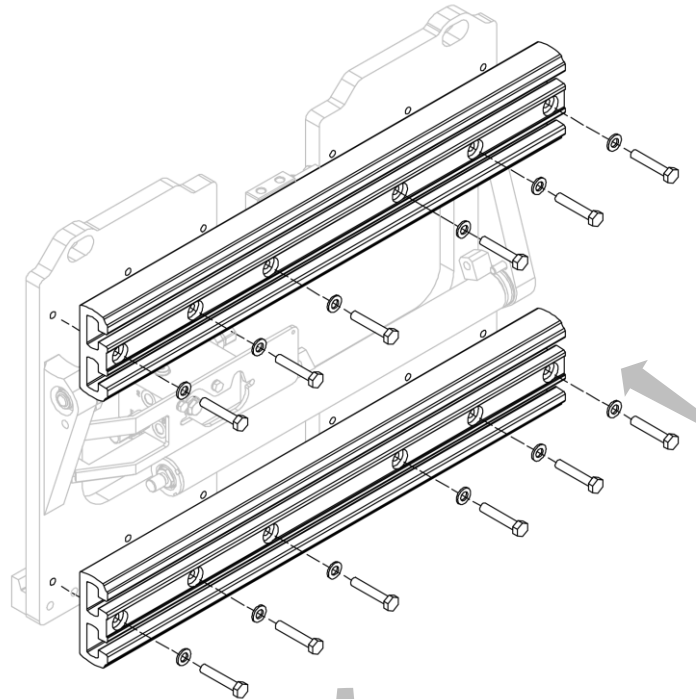
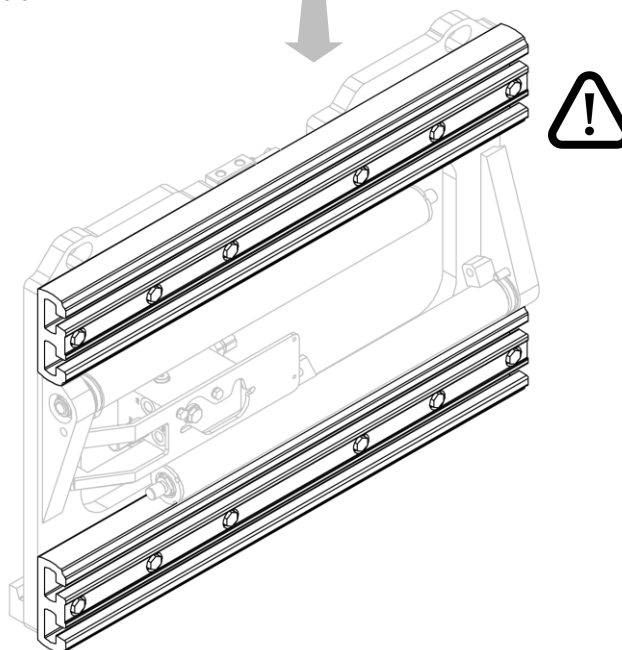

Figure 9
Figure 10
2. Install the aluminium profiles one at a time, using the bolts provided (see *Figure 9* and *Figure 10*).